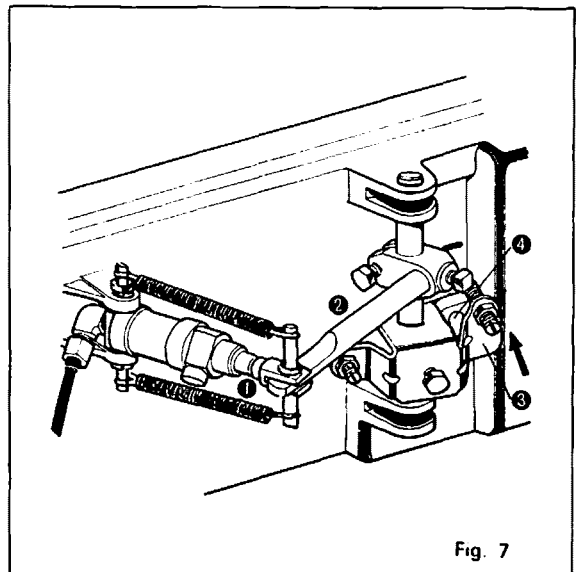

Fig. 7
**(7) Automatic presser lifter (Type 500)**
When the power is switched on, the air pressure inside presser lifter cylinder ❶ increases to move the piston, which drives knee lifter ❸ via piston operating link ❷ to push up push rod ❹ and the presser foot. (Fig. 7)